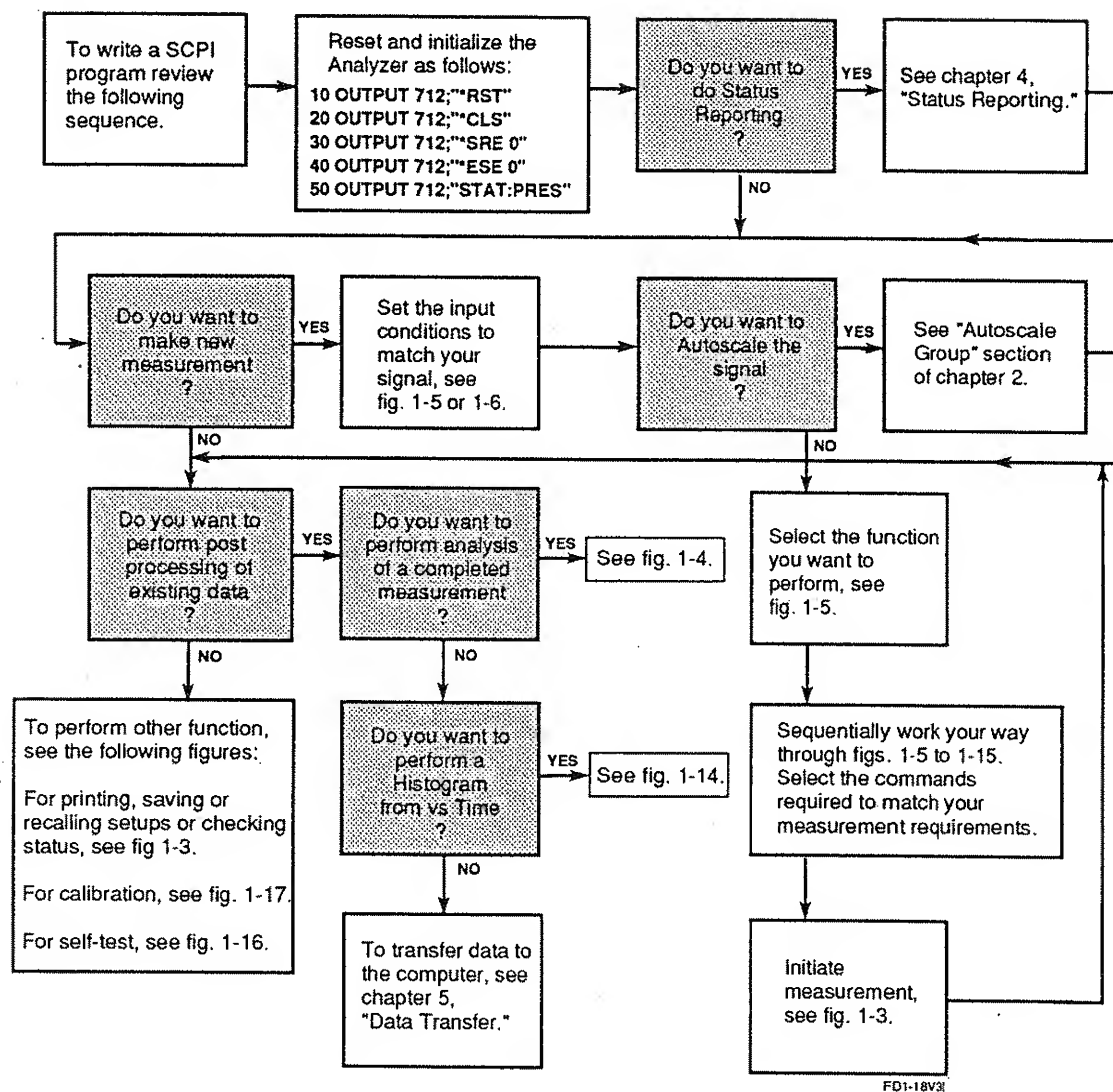

Figure 1-18. SCPI Programming Flowchart
Figure 1-18 is a general summation of how to write SCPI programs. It shows a typical sequence you might go through in the process of writing a program. You do not have to follow this exact sequence, but it will help you to become familiar with the Analyzer's capabilities and the associated programming commands.
*Prior to using any of these commands, use the Common Command *RST to set the Analyzer to a known state. The reset conditions (*RST =) are listed in table 1-1 in chapter 1, "Programming Overview." It is also a good idea to initialize the Analyzer as shown in figure 1-18.*